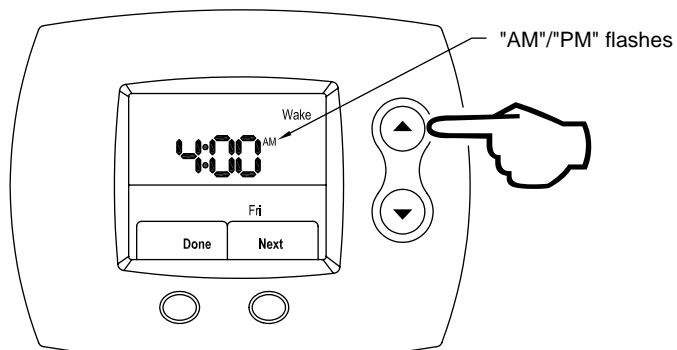

Figure 123
Step 6: Next, using the **UP** (index AM / PM) or **DOWN** (index AM / PM) buttons, select AM / PM. This is shown in Figure 123.